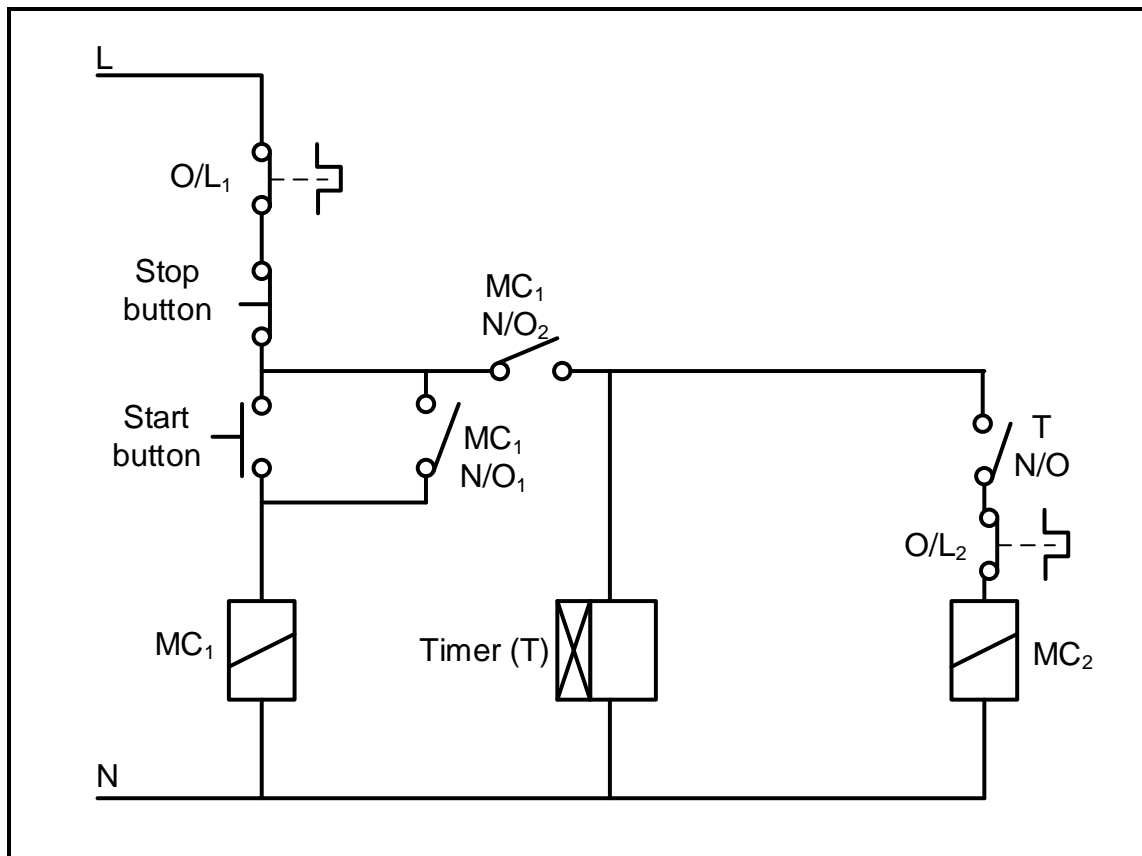

FIGURE 5.3: CONTROL CIRCUIT
- 5.3 Study FIGURE 5.3 below and answer the questions that follow.
- 5.3.1 Identify the motor starter in FIGURE 5.3. (2)